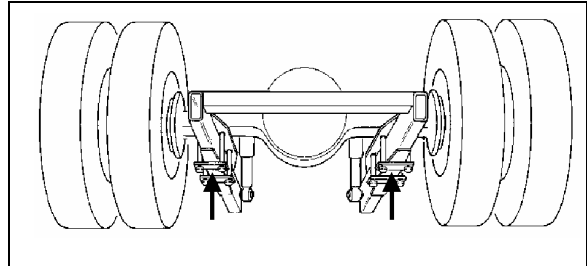

FIGURE 6: JACKING POINTS ON DRIVE AXLE H3B762
- FIGURE 6: JACKING POINTS ON DRIVE AXLE 4
8. Install jacks under the axle jacking points to support the axle weight (refer to figure 6).